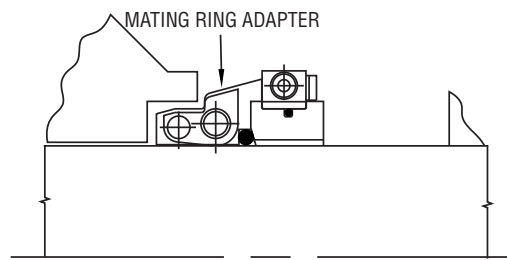

FIGURE 9
- Remove the setting gauge. The installation should now look like Figure 9.